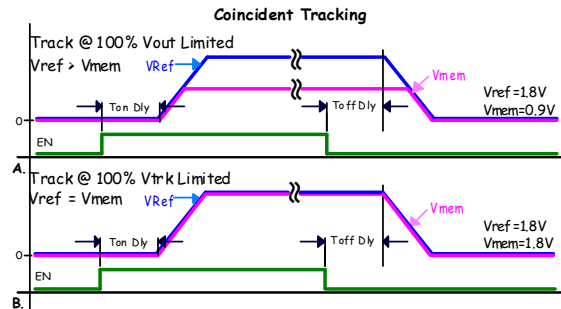

FIGURE 17. COINCIDENT TRACKING
The ZL9117M offers two modes of tracking: coincident and ratiometric. Figures 17 and 18 illustrate the output voltage waveform for the two tracking modes.
1. Track at 100%  $V_{OUT}$  limited. Member rail tracks the reference rail and stops when the member reaches its target voltage, Figure 17\(A\).
2. Track at 100%  $V_{TRK}$  limited. Member rail tracks the reference at the instantaneous voltage value applied to the VTRK pin, Figure 17\(B\).